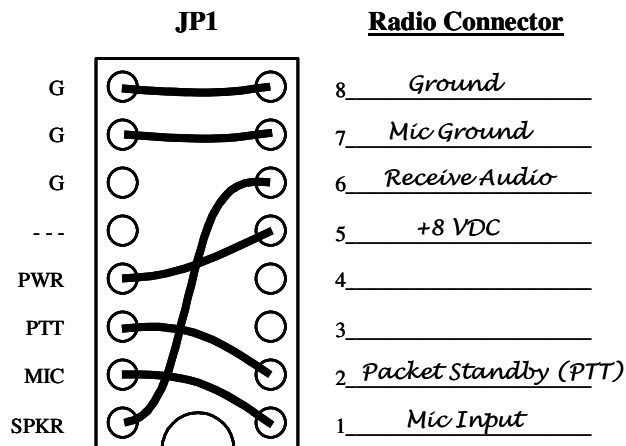

Figure 3 – Example Jumper Wire Diagram for TS-450
- **Draw Jumper Wires** - Once you have verified your pin-out and are comfortable with the results, you are ready to label the lines in Figure-2 and draw in the jumper wires. To do this, you simply need to draw a line between the pins on the left of JP-1 (G, PWR, PTT, Mic & SPKR) and their appropriate match on the right side of the diagram. For example, draw a line between “PWR” pin on the left of JP-1 and the line that you labeled “Accessory Voltage”. The “PTT” pin should be connected to the pin that you labeled “PTT” and so on. If you are installing the Signalink on a Data or Accessory port, then refer to Figure 1 for the correct signal names. An example of the Jumper Wiring Diagram for a Kenwood TS-450 is shown in Figure 3.